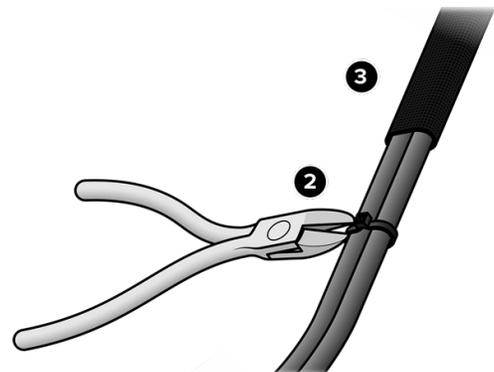

Figure 5-4. Cutting Tie Wrap and Removing Sleeve
2. Use a wire cutter to cut the flexible tie wrap that binds the SAS cable pair. See Figure 5-4.